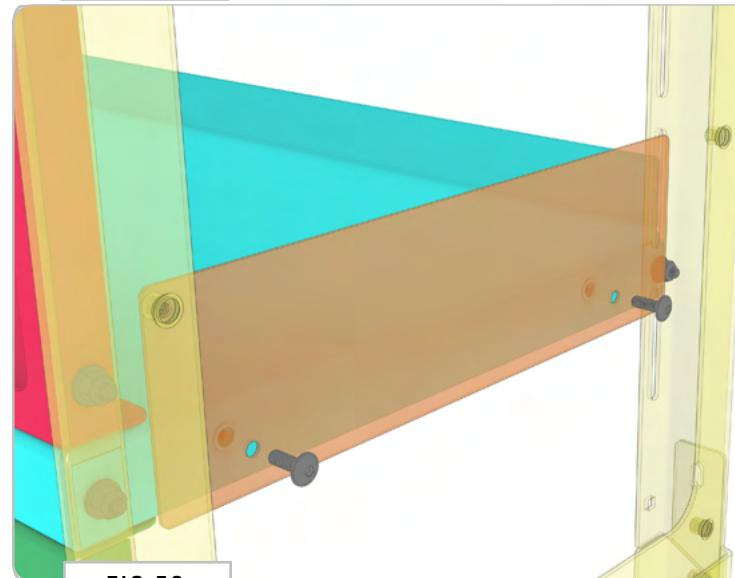

FIG 52
3.9 Attach Shelf Covers to Middle Tray: Attach the **Shelf Cover Plates** to the pre-threaded locations of the **Middle Tray** using **(2ea) 1/4-20 x 0.75 Flanged Button Head Screws** (FIG 52).